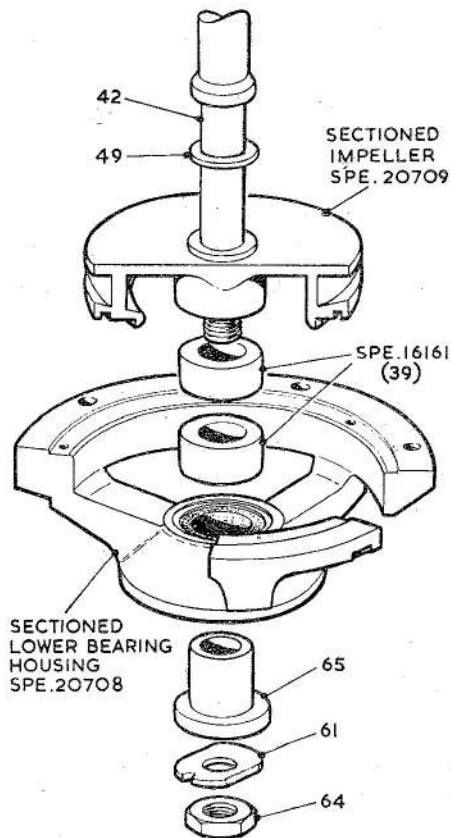

Fig. 14. Impeller clearance tools
Key to Fig. 14
(3) Fit the special cut-away impeller SPE.20709 (fig. 14) over the pump shaft together with two distance pieces SPE.16161 (39). Temporarily secure the sectioned carbon bearing housing SPE.20708 (fig. 14) to the volute studs in three equi-spaced positions only with self-locking nuts (73). Fit the lower bearing sleeve (65) small diameter end first over the pump shaft and secure with a locknut (64).
(4) Using right-angled feeler gauges check the gap between the impeller SPE.20709 and the impeller shroud plate (76) at several radial positions. Remove the carbon bearing housing, spacers and impeller to increase or decrease the thickness of shim (49) fitted and bring the gap within the specified 0.010 in./0.020 in.
(5) Position the impeller (53) on the shaft. Fit helix shroud spacing shims (55) of greater thickness (0.030 in./0.040 in.) than that likely to be finally required and secure the helix shroud (54) in three equi-spaced positions with countersunk head screws (56). Fit spac-
ing bushes SPE.16161, the lower bearing sleeve (65) and secure with a locknut (64). Remove the shims (55) progressively until the impeller shroud just impedes turning of the impeller by hand, replacing the shaft components after each alteration of the shim thickness. Release the locknut (64), remove the lower bearing sleeve and replace after securing the sectioned carbon bearing housing SPE.20708 (fig. 14) to centralise the pump shaft. Recheck that the helix shroud just impedes turning of the impeller by hand.